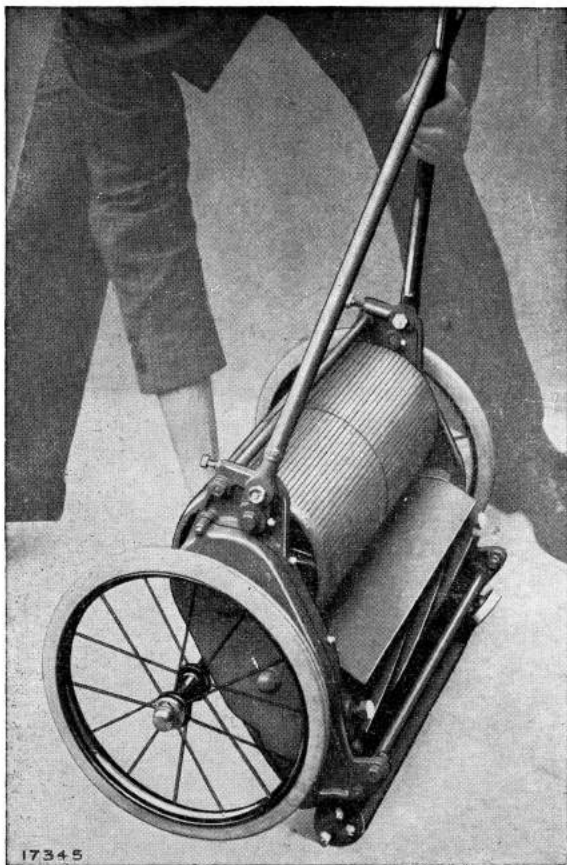

FIG. 4
**CARRIAGE.** When the machine has to be moved from green to green or lawn to lawn, the transport carriage should always be used as the Certes should not run on its rollers when off the grass. Fig. 4 shows an easy way of mounting the machine on the carriage.